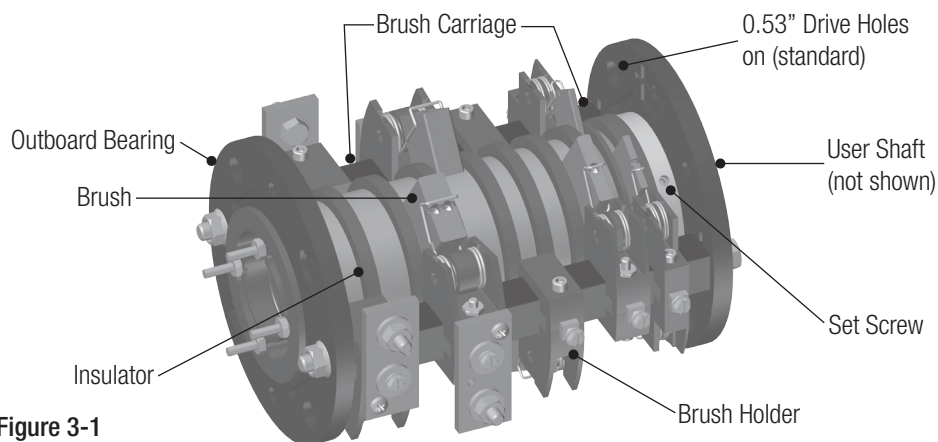

Figure 3-1
3.1.1.2 Unenclosed slip ring assemblies are made up of two basic components, the brush carriage and the core. The brush carriage is made up of the brush posts, brushes, brush holders, and outboard bearings. The core is made up of the rings, insulators, drive collar, ball or friction type bearings, and leads extending from the end of the outside of the through bore. See **Figure 3-1**